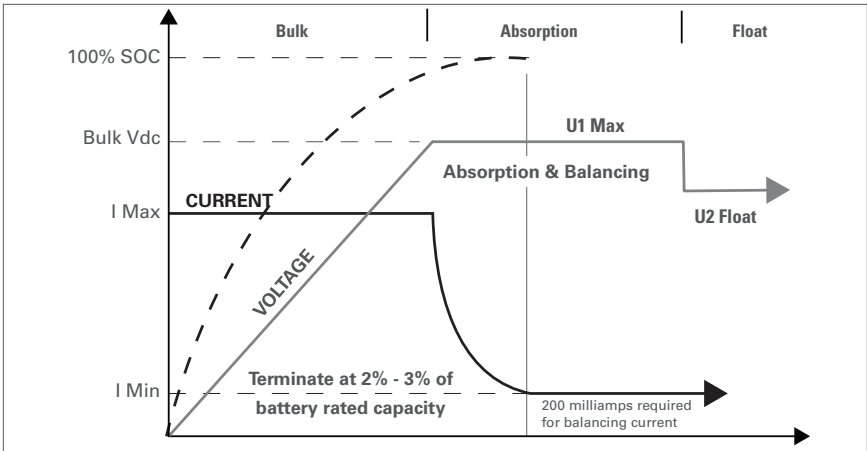

Figure 14. Charge Graph.
- **It is possible.** Short-term charging with a lead-acid charger is possible only if the bulk and absorption voltages are equal to or below the bulk voltage. Refer to **Table 2-1 HELIOS Electrical Specification** for charging parameters and **Figure 14 HELIOS Charge Graph**.